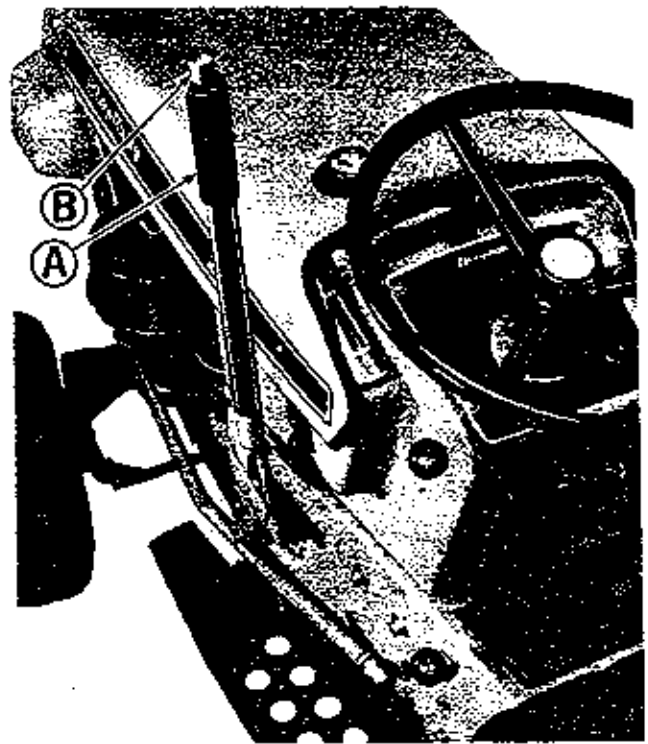

Figure 3. Controls on left side of tractor.
**MANUAL LIFT LEVER:** (Figure 3, item A) The lift lever is used for raising or lowering attachments such as the rotary mower or the tiller for transport. The operating height of attachments, can be regulated by using the notches and pin holes provided. The thumb button (B) on top of the handle disengages the catch from the quadrant so the